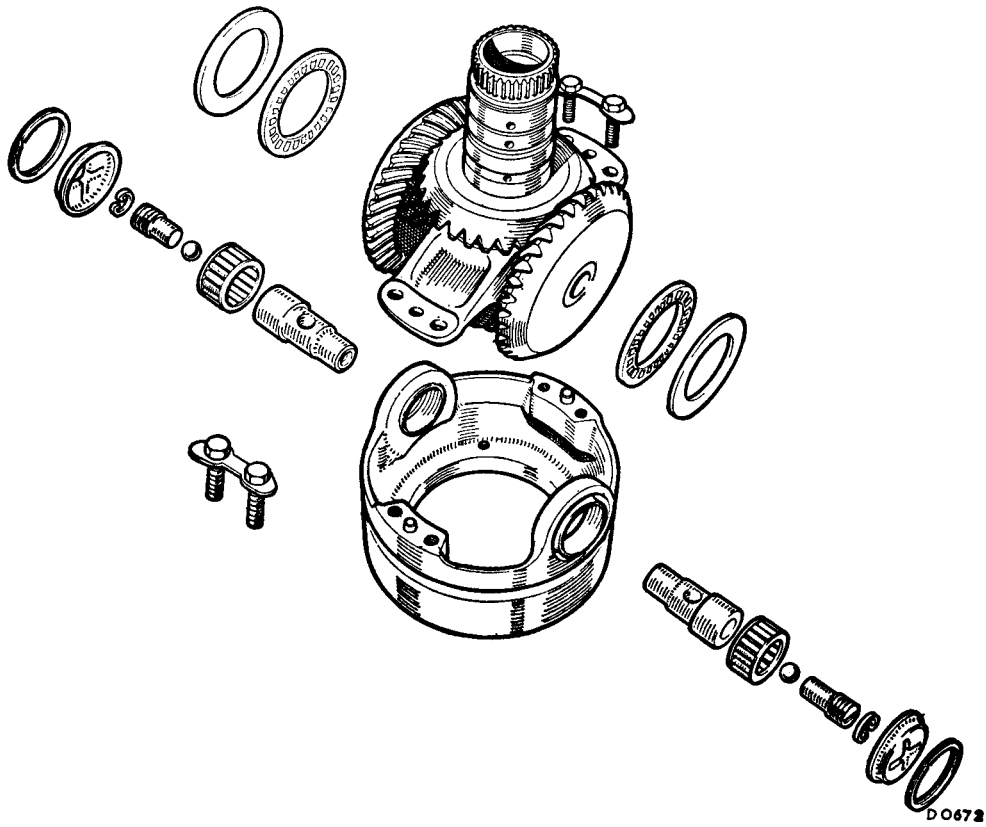

Fig. Fa.51
15. Dismantle the assembly, ensuring that all components are retained in their respective positions for reassembly (see Fig. Fa.51).